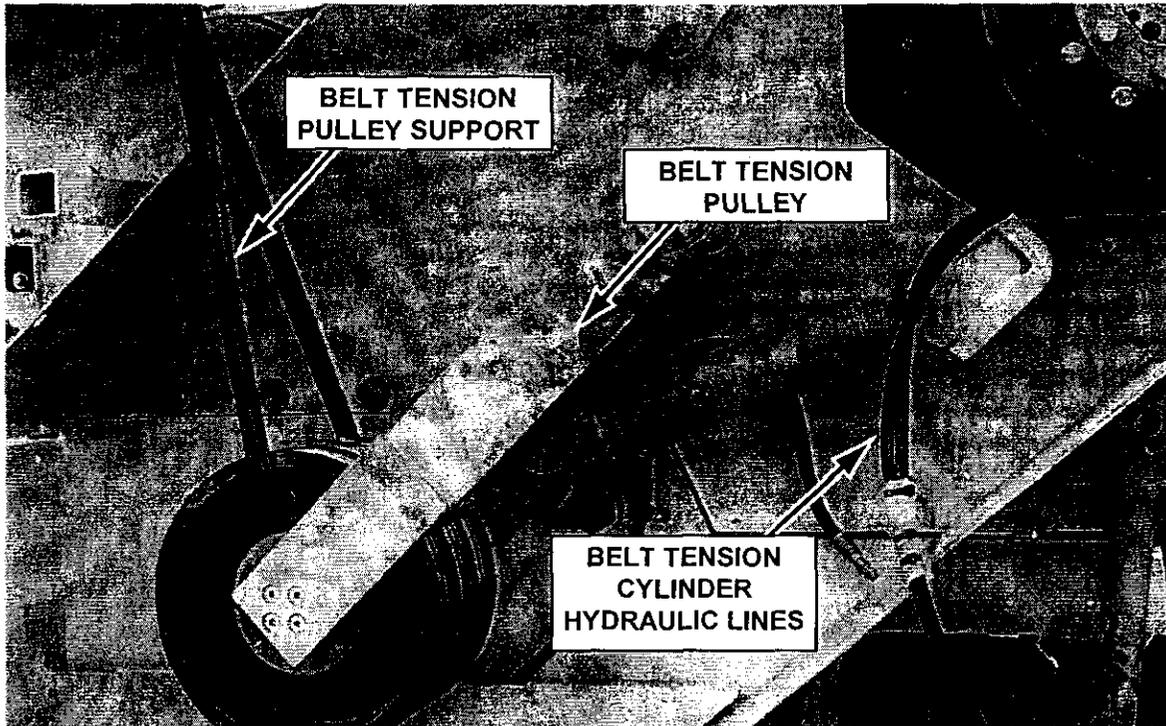

FIGURE 52
3. Remove the cutter belt and disconnect any hydraulic hoses that are connected to the belt tension cylinder. Then, support the belt tension pulley with a strap (figure 52).